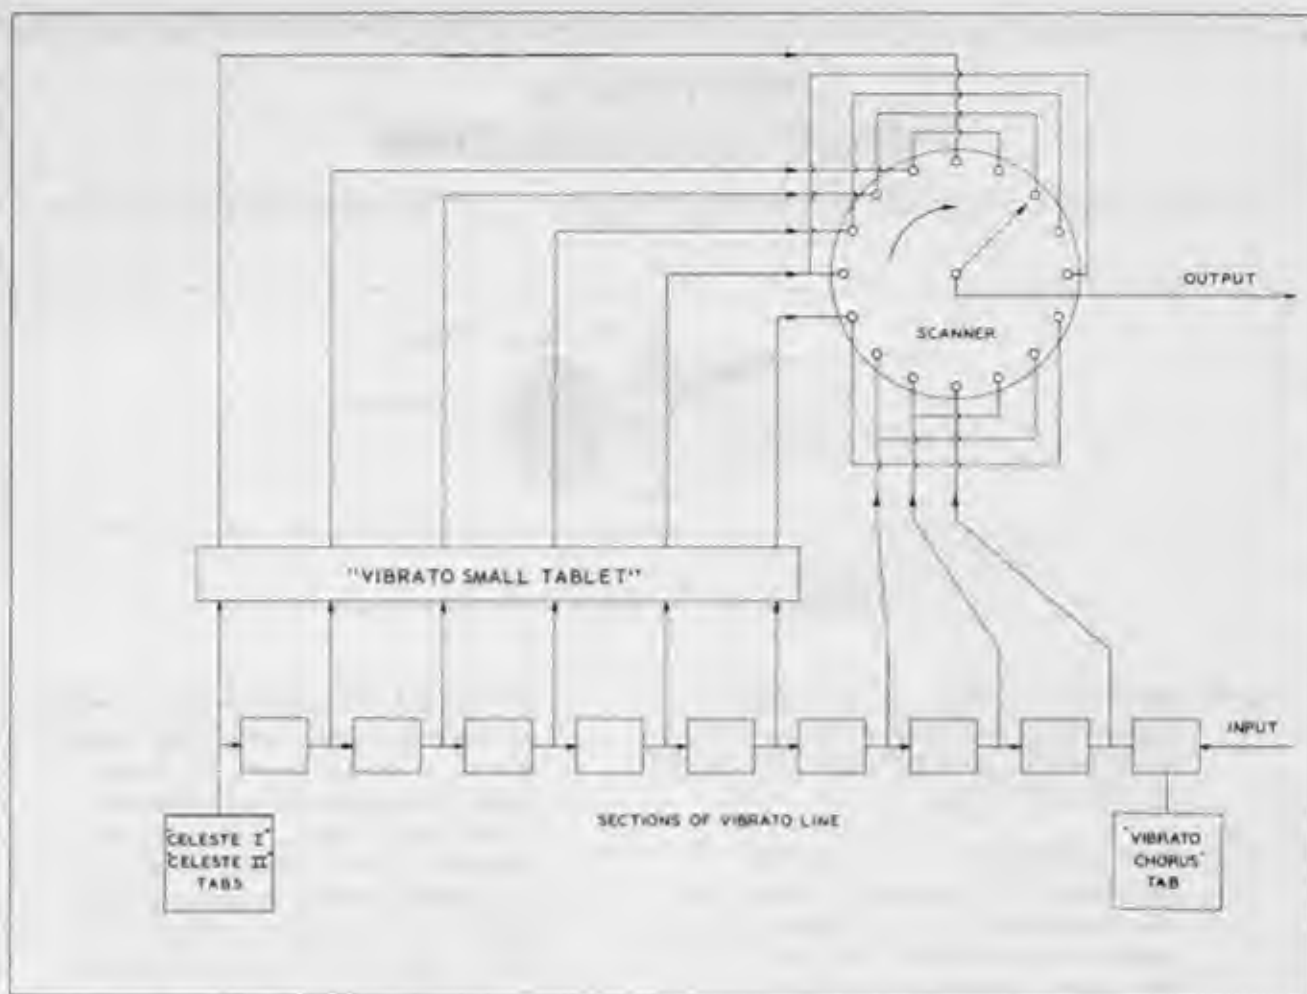

Figure 2-2. Fundamental Diagram of Vibrato System
- 2-3 VIBRATO SYSTEM - The Hammond Organ vibrato equipment (see Fundamental Diagram of Vibrato System, Figure 2-2) varies the frequency of all tones (excepting
Figure 2-2 shows only the "vibrato" channel of the amplifier. All tones sent through this channel have the vibrato effect. When vibrato is not desired, the "Vibrato On" tab in the up position feeds the signal through the "non-vibrato" channel.